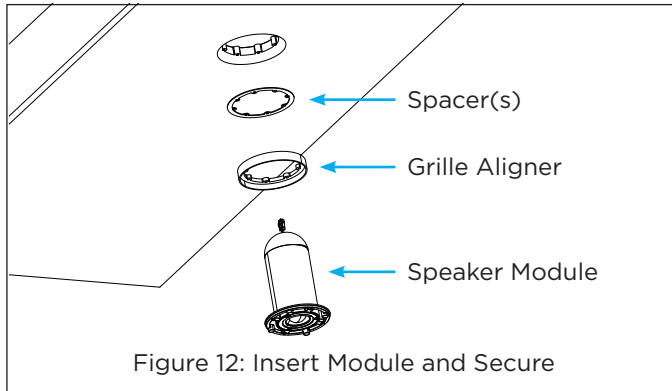

Figure 12: Insert Module and Secure
- Connect the 2-pin connector from the enclosure opening to the 2-pin connector on the back of the speaker module, including the aligner and spacer stack. **Make sure that the connector orientation is correct.** Insert the speaker module into the opening and secure the speaker module to the enclosure using four screws (see Figure 12).